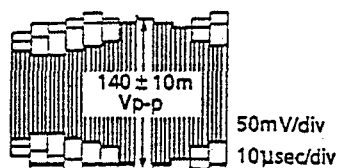

Figure 2-7.
4. Adjust R208 (recording Y control) so that the sync tip be $140 \pm 10\text{mVp-p}$ as shown in Figure 2-7.